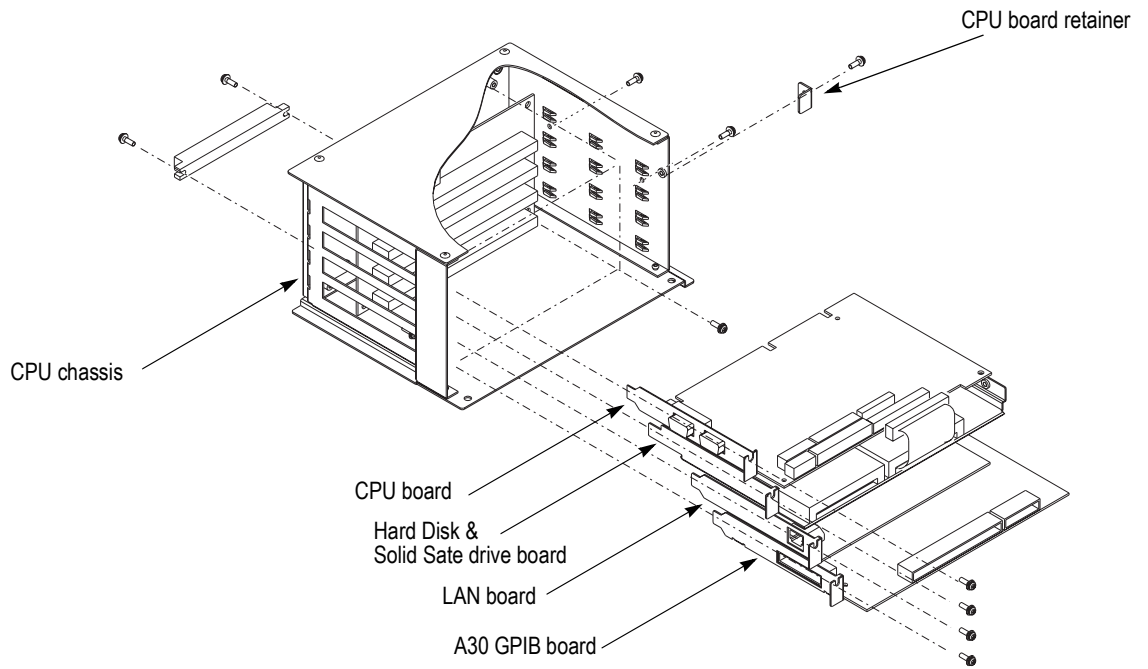

Figure 2: HDD/Solid State disk board removal
1. Use a screwdriver with a size #2 Phillips tip to remove the two screws securing the hard disk and solid state disk bracket to the frame on the right side of the CPU Unit. See Figure 2.